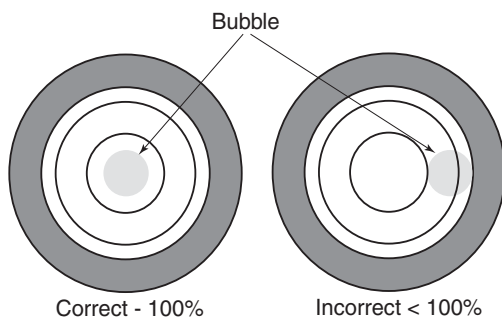

Figure 1-12 Bubble Level Centering
The bubble levels are located on both ends of the gantry stationary base, near a point where the rotating structure pivots mount to the base structure. (See Figure 1-10.) The gantry is properly leveled when the bubble is centered. (See Figure 1-12, on page 41.)
- 3.) When the bubble levels are centered (Figure 1-12), each of the four (4) leveling pads should be carrying a portion of the gantry weight. Distribution of the gantry weight prevents the base frame from rocking during normal operation. **DO NOT leave any adjuster un-loaded or floating.**